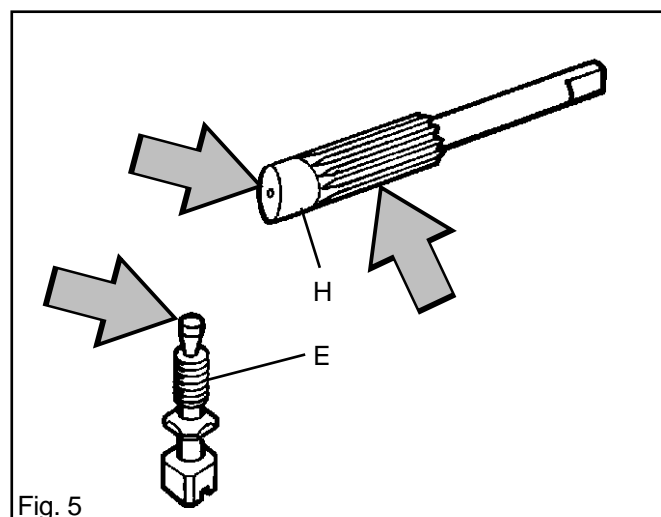

Fig. 5
1. The taper on the adjustment screw (E) does not show signs of wear. See fig. 5.
2. The pump piston (H) eccentric face does not show signs of wear. See fig. 5.
3. The pump piston pinion is undamaged. See fig. 5.